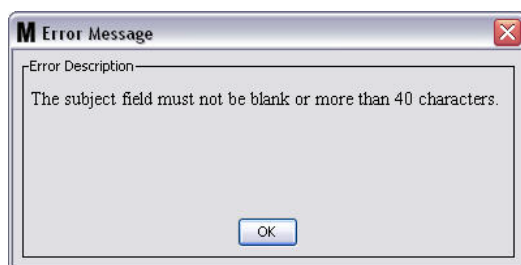

FIG. 156
- **Subject:** Identifies reason for e-mail message being sent. You must provide a subject. The error message shown in FIG. 156 pops up if you click the OK button without providing a Subject.